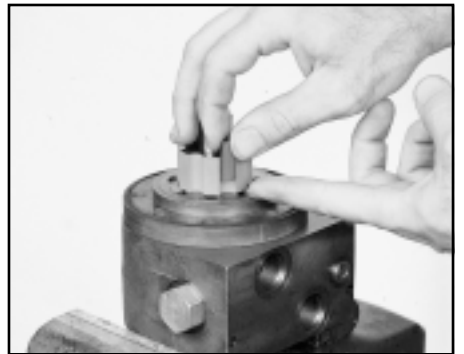

Figure A08
- Place the outer over the inner and insert the rolls. The rolls should not block the ports in the valve plate. Place the check balls on their seats on the commutator plate. Assembly grease can be used to keep the check balls in place during assembly. SEE FIGURE A08.